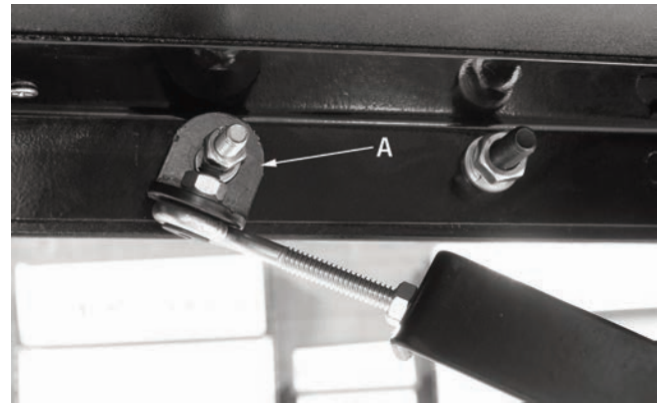

FIGURE 5
- 6) Mount the rear diagonal brace assembly (A) Fig.5 to the hole drilled in the rear of the steel frame of the extension table and the rip fence bar using a hex. bolt, washer, spring washer and hex. nut as shown.